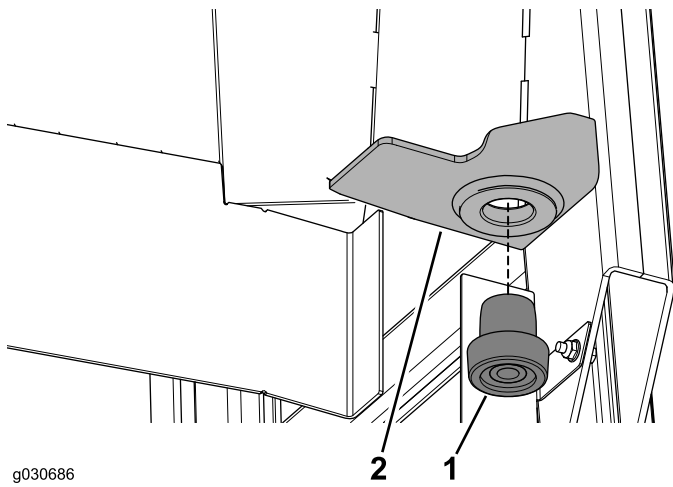

Figure 10
2. Press a rubber isolator into the hole of the right, rear mount on the cab frame (Figure 10).